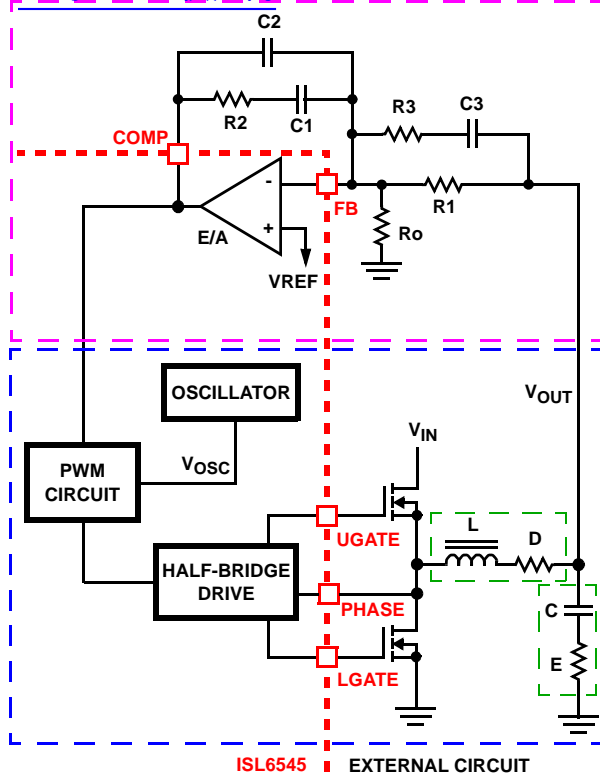

FIGURE 9. VOLTAGE-MODE BUCK CONVERTER COMPENSATION DESIGN
This section highlights the design consideration for a voltage-mode controller requiring external compensation. To address a broad range of applications, a type-3 feedback network is recommended, as shown in the top part of Figure 9.
Figure 9 also highlights the voltage-mode control loop for a synchronous-rectified buck converter, applicable to the ISL6545 circuit. The output voltage (V_{OUT}) is regulated to the reference voltage, V_{REF} . The error amplifier output (COMP pin voltage) is compared with the oscillator (OSC) modified sawtooth wave to provide a pulse-width modulated wave with an amplitude of V_{IN} at the PHASE node. The PWM wave is smoothed by the output filter (L and C). The output filter capacitor bank's equivalent series resistance is represented by the series resistor E.
The compensation network consists of the error amplifier (internal to the ISL6545) and the external R1-R3, C1-C3 components. The goal of the compensation network is to provide a closed loop transfer function with high OdB crossing frequency (F_0 ; typically 0.1 to 0.3 of F_{SW}) and adequate phase margin (better than 45°). Phase margin is the difference between the closed loop phase at F_{0dB} and 180°. The equations that follow relate the compensation network's poles, zeros and gain to the components (R1, R2, R3, C1, C2, and C3) in Figure 9. Use the following guidelines for locating the poles and zeros of the compensation network:
4. Select a value for R1 (1kΩ to 5kΩ, typically). Calculate value for R2 for desired converter bandwidth (F_0). If setting the output voltage via an offset resistor connected to the FB pin, R_o in Figure 9, the design procedure can be followed as presented.